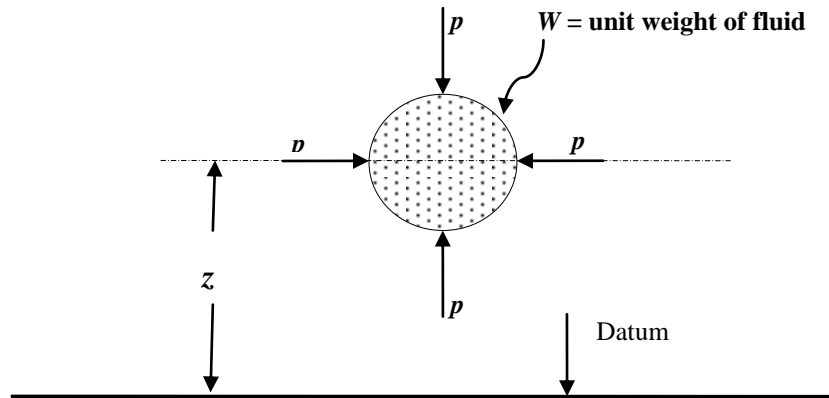

Figure 1.16 Potential energy due to elevation
2. Potential energy due to elevation (z): Consider a unit weight of fluid as shown in Fig. 1.16. The potential energy of a particle of a fluid depends on its elevation above any arbitrary plane. We are usually interested only in the differences of elevation, and therefore the location of the datum plane is determined solely by consideration of convenience. A fluid particle of weight W situated at a distance Z above datum possesses a potential energy Wz . Thus, in SI units, its potential energy per unit weight is expressed as $Nm/N = m$.